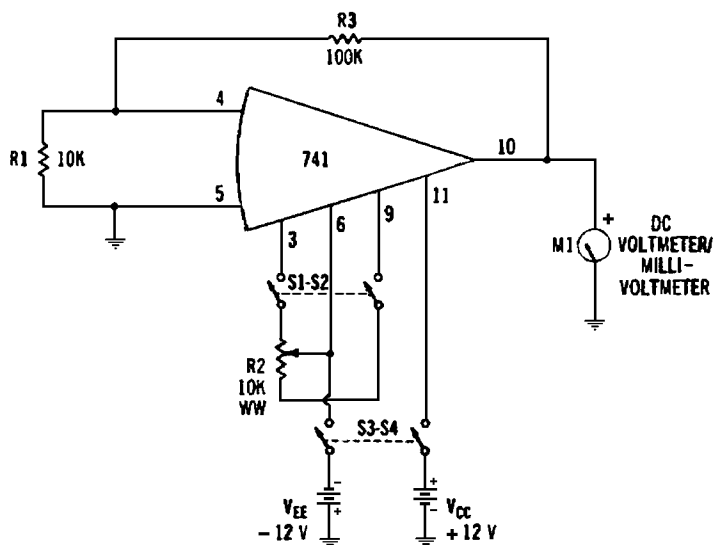

Fig. 2-6. Offset-null adjustment, internal.
#### *Step 1 (Fig. 2-6)*
1. With switches S1-S2 and S3-S4 open and with potentiometer R2 set to midrange, set up the test circuit as shown in Fig. 2-6.